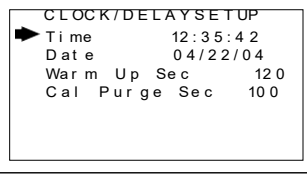

Figure 5-9: Clock & Calendar / Delay Timer Menu
**Warm Up** and **Cal Purge** time delays are also available to prevent unwanted alarm trips. Figure 5-9 shows the menu for these items.